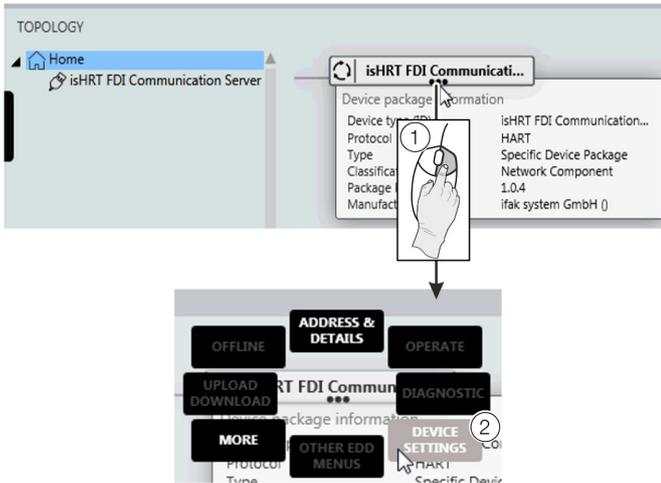

Figure 72: Select FIM – 'Device Settings'
6. Right-click ① as shown in **Figure 72**.
7. Select 'DEVICE SETTINGS' ② as shown in **Figure 72**.